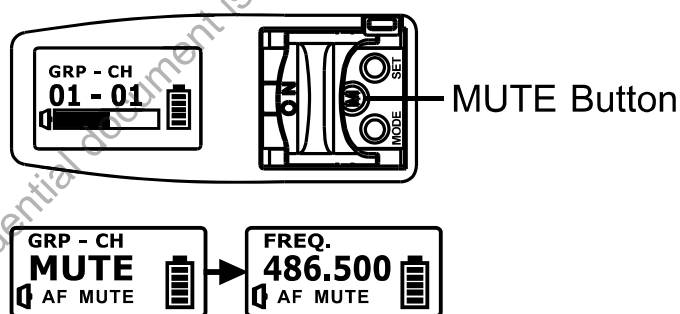

Fig. 17
- (1) ROM-ER → Channel wasn't programmed or internal data error.
- (2) ERROR1 → RF frequency targeting circuitry is failed.
- (3) NO---03 → The set frequency exceeds the upper band. The transmitter frequency will not be changed but it can be operated as long as the power switch is turned on again.
- (4) NO---04 → The set frequency exceeds the lower band. The transmitter frequency will not be changed but it can be operated as long as the power switch is turned on again.
(H) MUTE Button. Fig. 17:
- (1) Press MUTE button to enter MUTE status, the Audio Signal Level Bar ⑱ shows AF MUTE and blinks, and all operations and the ACT function are still workable.
- (2) Press MUTE button again to unmute. AF MUTE will be disabled automatically when power off.
- (3) MUTE button is only workable under MAN (Manual Setting) mode.